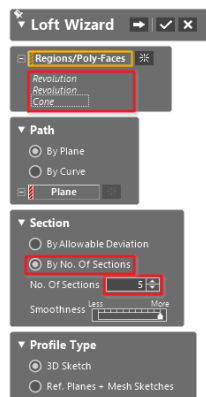

Figure 201
- Check the options match **Figure 201**.